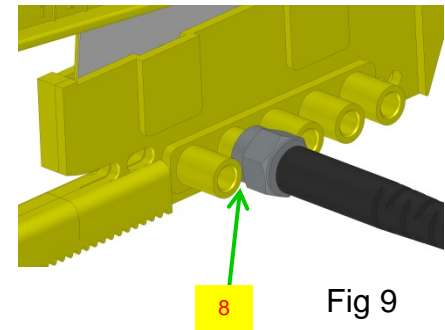

Fig 9
13. The connector should be seated flush as shown in (Figure 9). Hold "IN" the SMA connector while cutting to insure proper cut position [flush with the end of the connector].